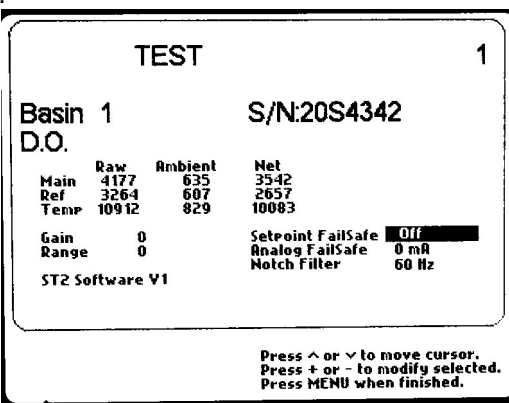

Figure 23 - Channel Test (D.O.)
3. On the CHANNEL TEST screen (Figure 23), use the up or down arrow keys to change the highlighted field to the NOTCH FILTER field located in the lower right side of the screen.